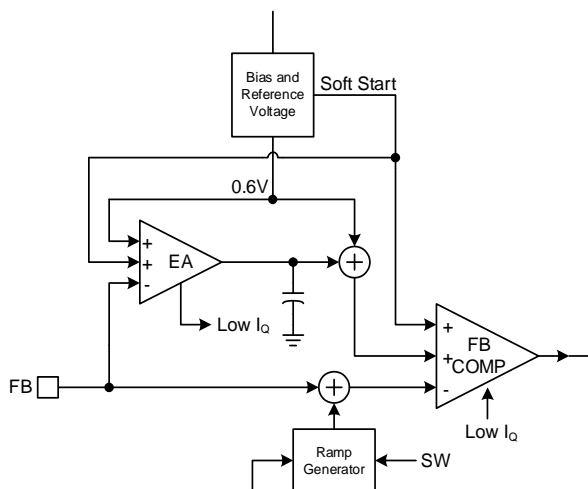

Figure 2: Operation Blocks in Sleep Mode
The MP2152D employs sleep mode for high efficiency at extremely light loads. In sleep mode, most of the circuit blocks are turned off to reduce the input current to a minimum value (see Figure 2). The error amplifier (EA) and the PWM comparator remain on during sleep mode.